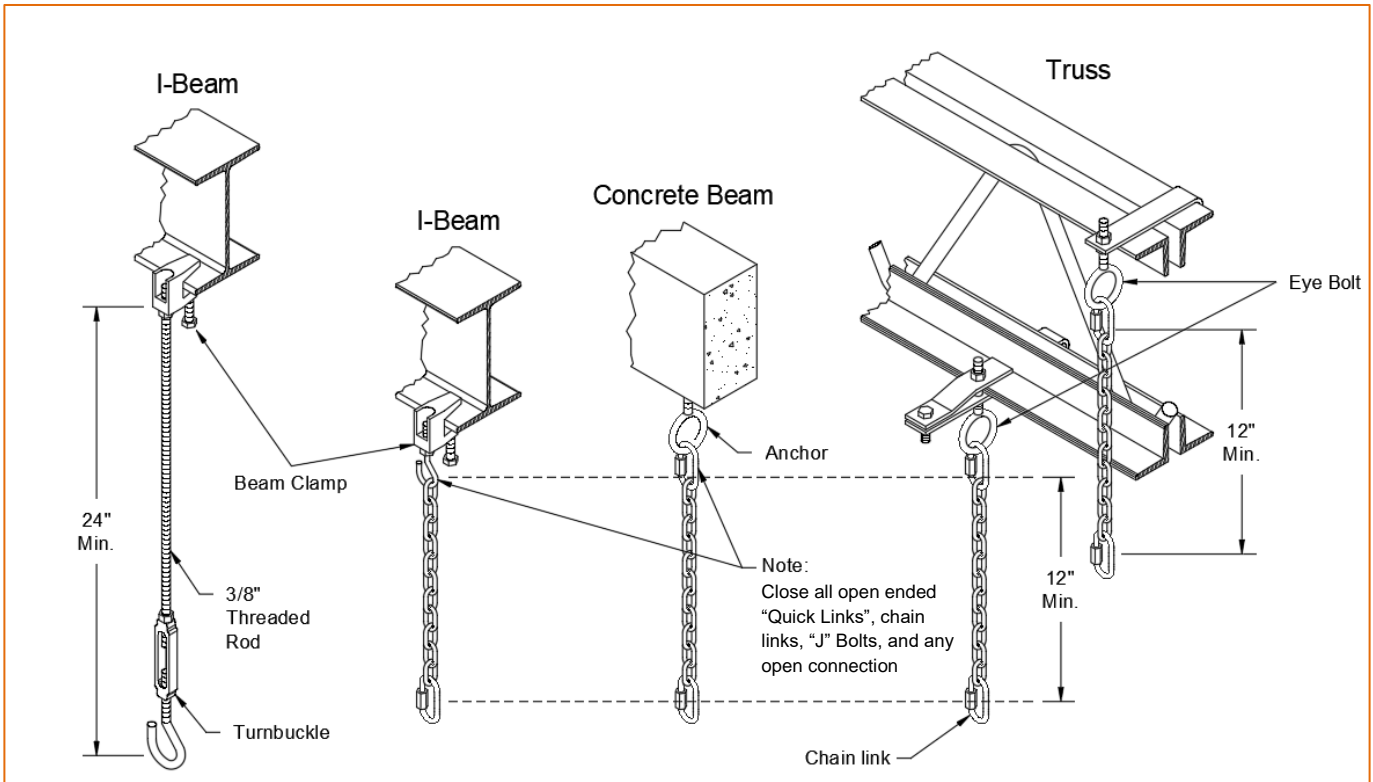
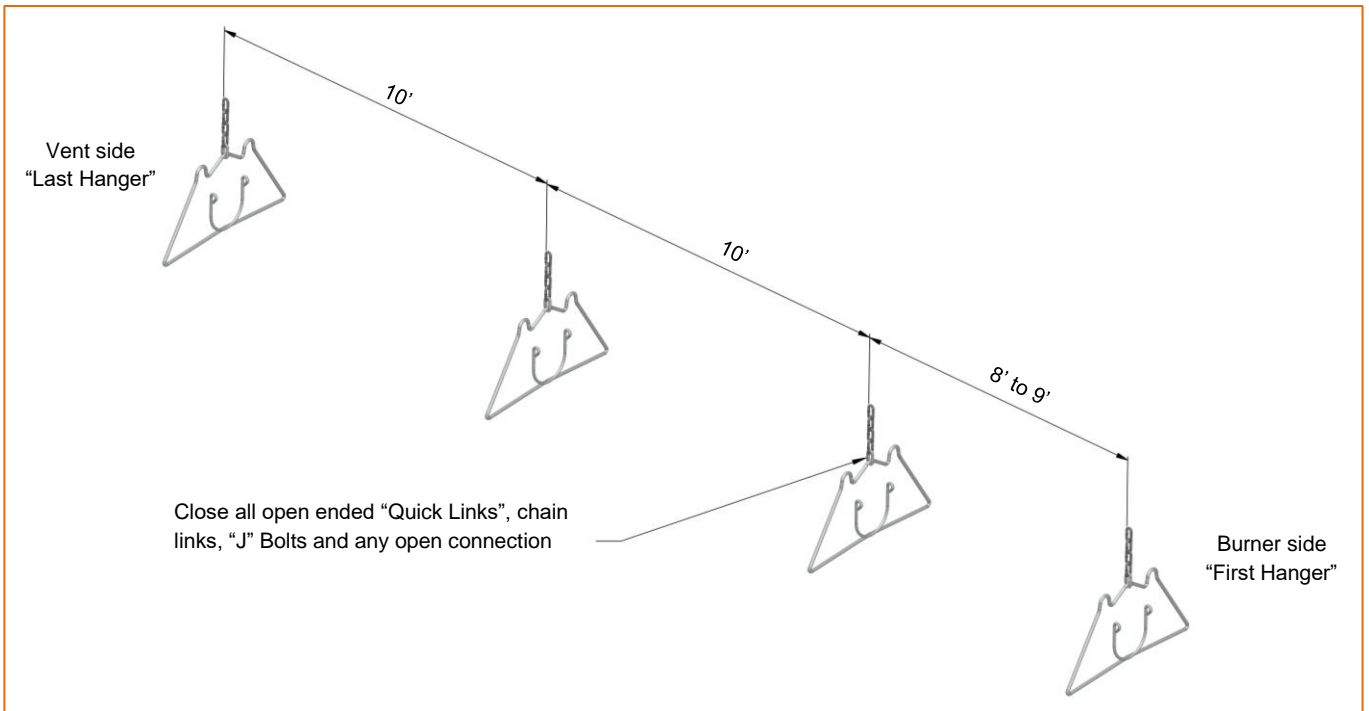

Figure 5: Suspension Mechanism
Figure 6: Typical Hanging Points
Generally, there is no unique sequence for installation of the burner or heat exchanger. A review of the job site will usually indicate a logical installation order. However, time and expense can be saved if installation is begun at the most critical dimension, watching for interference from overhead doors, cranes, auto lifts etc. Figures 6 & 7 provides a general overview of the components utilized in the installation, as well as their general relationship.
- Suspension mechanism must allow for lateral tubing expansion. A minimum 12" length welded link chain with a working load limit of at least 200 lbs. is recommended (refer to Figure 5 for more details). SRP recommends and make available "quick links" for connecting chain. If any open ended turnbuckles are used, the open ends must be closed to avoid unhooking chain with inadvertent contact.
- Locate hanging chain at predetermined suspension points in the structure. It is required that the first 2 hangers be about 8' to 9' away. Thereafter, 10' apart on average is acceptable for the remainder of the heat exchanger. At no time should hangers be more than 12' apart, (see Figure 6).
- Install the tube and reflector support hanger on the chain with Quick Links refer to Figure 5 & Figure 6